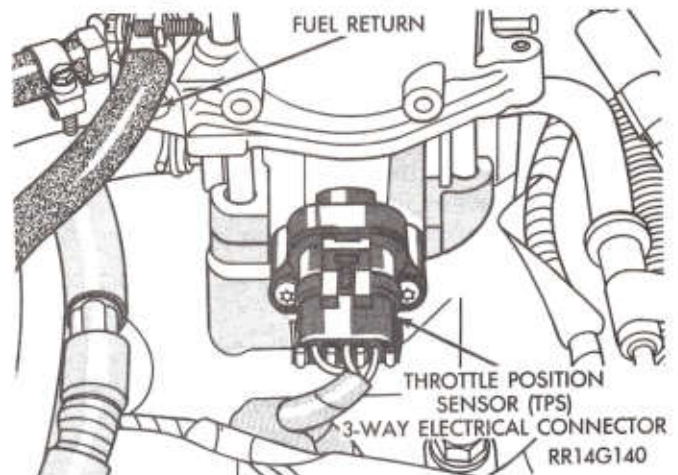

Fig. 14—Throttle Position Sensor (TPS) Electrical Connection
(21) Verify that the 3-way connector is attached to the throttle position sensor. (Fig. 14).